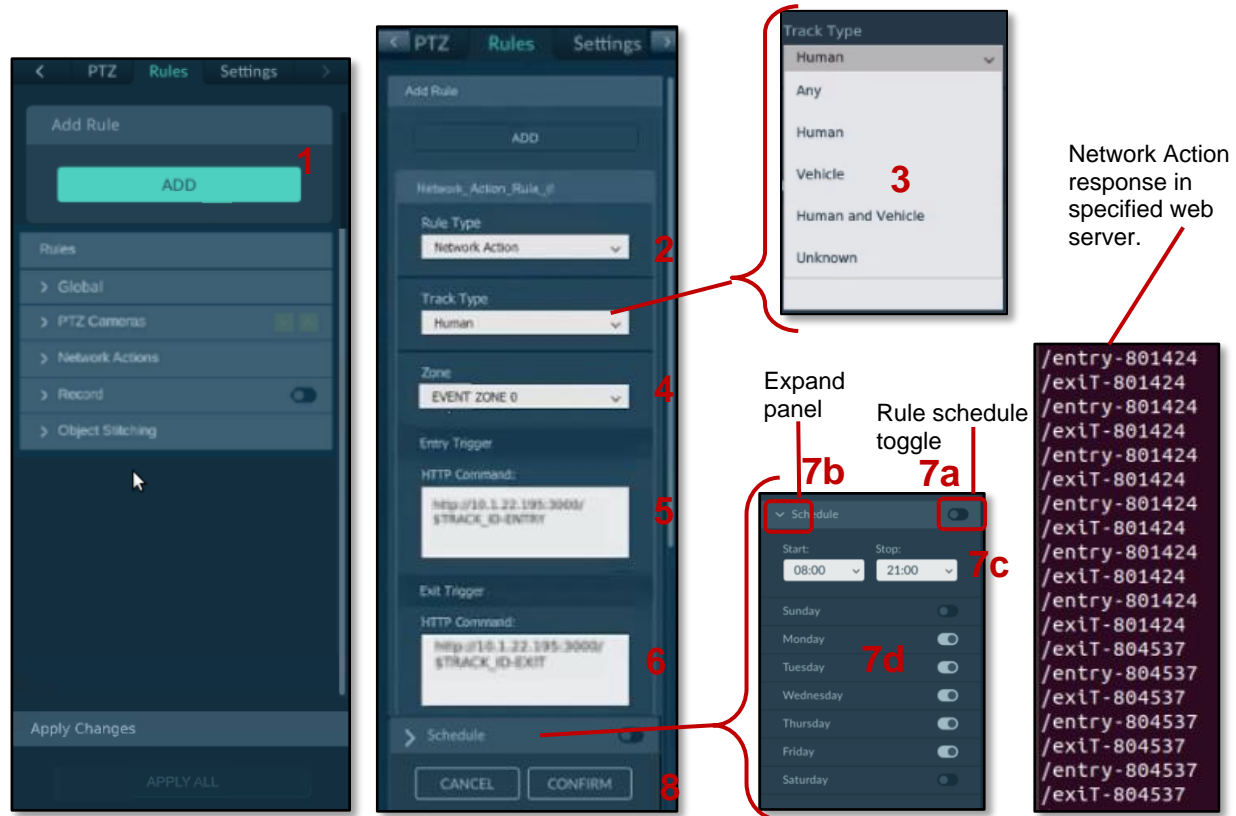

Figure 85. Network Action Add Rule Panel, Track Type, Schedule, and Log Response
1. From the **Configuration** mode panel > **Rules** tab, click **Add**. See Figure 85. Network Action Add Rule Panel, Track Type, Schedule, and Log Response.